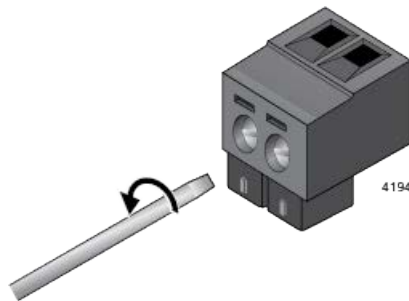

Figure 52. Loosening the Wire Retaining Screws on an Alarm Connector
4. Loosen the wire retaining screws in the connector with a #1 screwdriver. Refer to Figure 52.